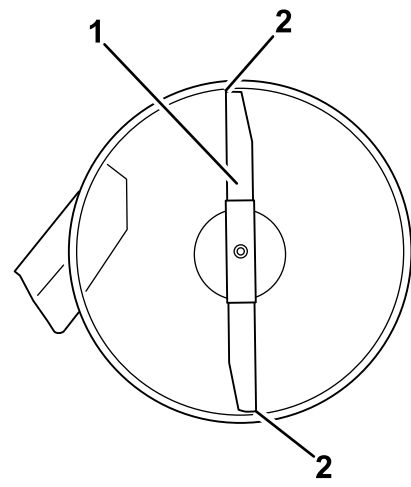

Figure 52
5. Measure from the tip of the front blade to the flat surface and the tip of the rear blade to the flat surface (Figure 52). If the front blade tip is not 1/16-5/16 inch (1.6-7.9 mm) lower than the rear blade tip, adjust the front locknut.
4. Carefully rotate the blades so they are facing front to rear (Figure 52).
is 1/16-5/16 inch (1.6-7.9 mm) lower than the rear blade tip (Figure 52).